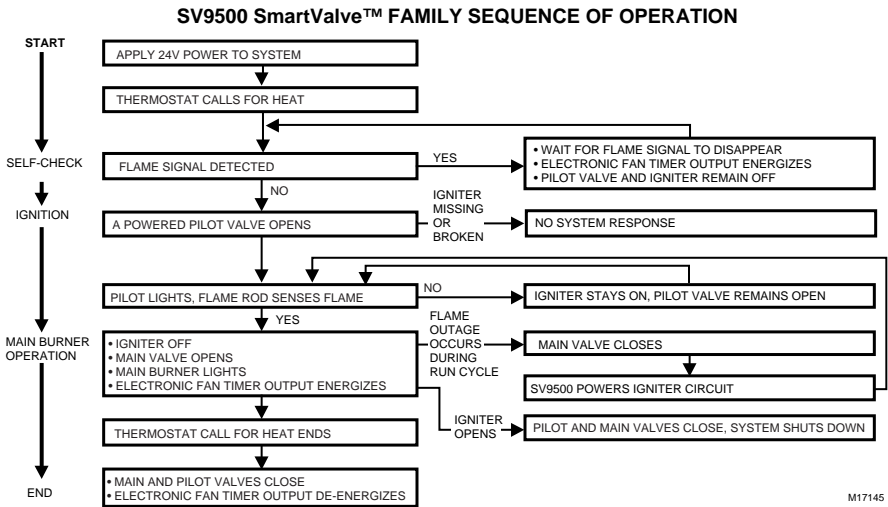

Fig. 13. SV9500 SmartValve System Sequence of Operation.
8. Follow the Operating Sequence and Troubleshooting flow charts as shown in Fig. 13 and Fig. 15 for the installed SmartValve SV9500 to make sure replacement is necessary.